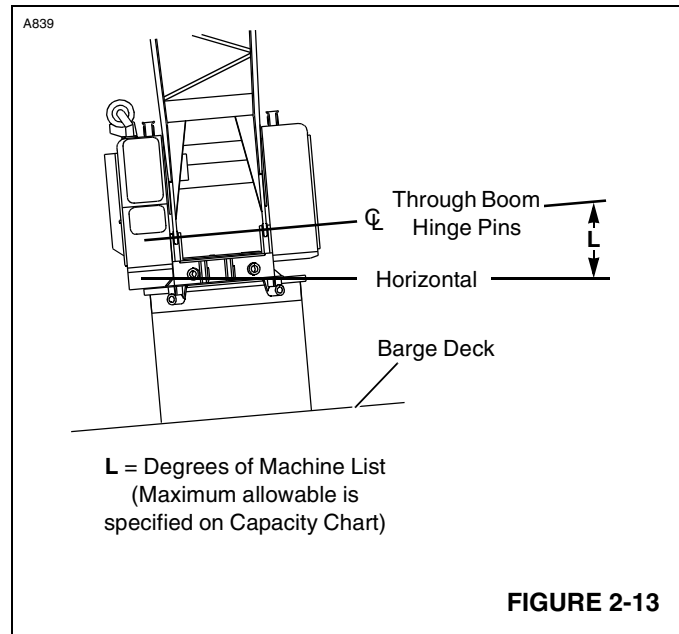

FIGURE 2-13
1. **Machine List**, as defined by Manitowoc, is crane's out-of-level condition — from side-to-side — as measured by angle between horizontal and a line drawn through centerline of crane's boom hinge pins (Figure 2-13). This out-of-level condition creates side load and effects crane's lifting capacity.